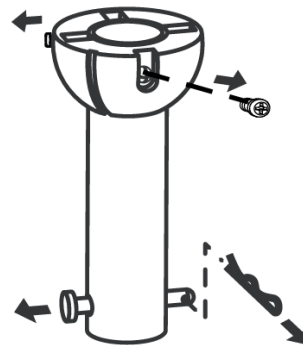

Fig. 6
2. Remove the hitch pin by removing the lock clip. **Fig.6**